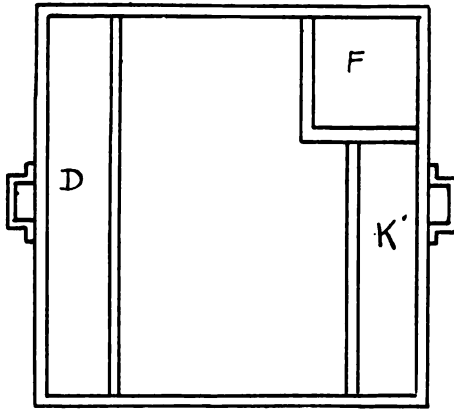
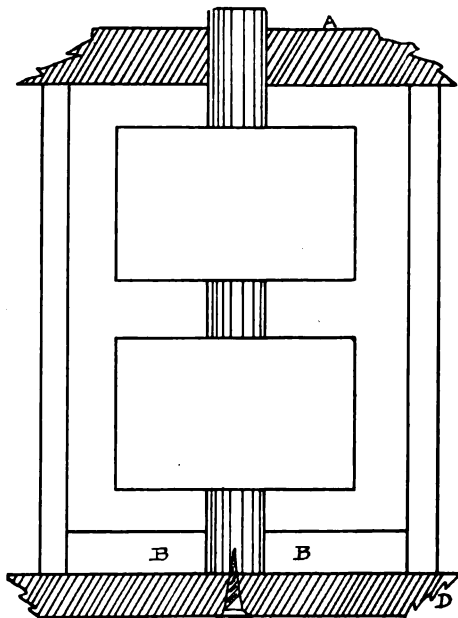
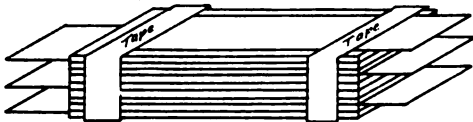

Fig. 58.—Top view of case
Fig. 61.—Spark coil in place
Fig. 63.—Completed condenser
Fig. 58 is a top view of the body of the case with instrument base (A) removed. It is divided into three main
Fig. 61 illustrates the method of placing the spark coil in section (F), Fig. 58, of the case. The upper end of the core fits exactly a hole in instrument base (A), and the lower end passes into a hole in a square block of wood (B). This end of the core is held also in place by means of a flat head wood screw passing through the bottom (D) of the carrying case and secured directly between the core wires, thereby preventing any side motion of the coil. The entire space around the coil is filled with hot paraffine after the necessary connections have been made, and this provides good insulation and holds the coil in place.
When completed, the condenser will appear as in Fig. 63. All five projecting foil sheets at each end are rolled together and each of these two sets of five acts as a terminal of the condenser. The glass and foil sheets will be held together to some extent by the shellac between them, but the completed condenser should be bound together by several layers of insulating tape, placed as shown in Fig. 63. The tape will serve also to keep the glass plates out of contact with the containing case and will act as a cushion to prevent breakage of the glass when the case is carried about in actual service. Sufficient tape should be used to insure a close fit of the condenser into the section (D) of the containing case, Fig. 58.